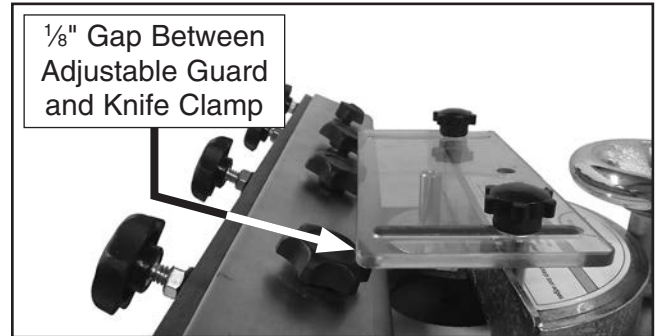

Figure 11. Adjustable guard adjusted to approximately $\frac{1}{8}$ " from knife clamp.
2. Loosen star knobs, position adjustable guard approximately $\frac{1}{8}$ " away from knife clamp or stationary clamp, then tighten star knobs to secure setting (see **Figure 11**). Refer to **Page 20** or **Page 22** for detailed instructions on installing the stationary clamps and knife clamp.